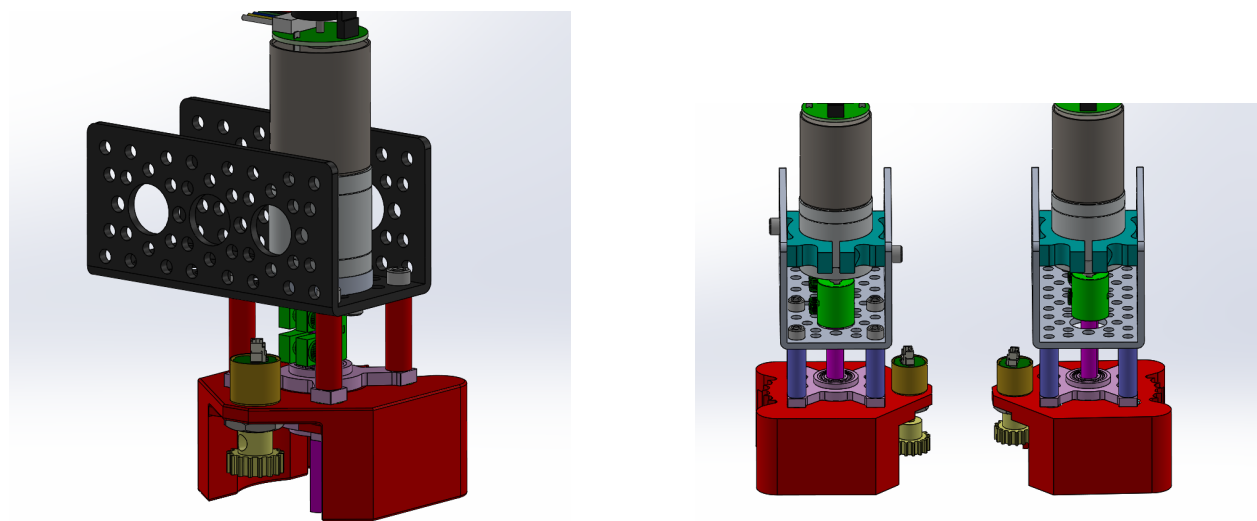

Figure 4: Corner Steering Step 4
4. **Encoder:** Attach the encoder **E7** to the encoder mount **S31** and then attach the 12-tooth gear **S27** to the encoder shaft. We will worry about its exact position later on. You should now have one finished corner steering assembly. Repeat the steps above to build the other 3 corner steering assemblies. **Note that unlike other assemblies, this assembly isn't identical for all four of them! You will need to build two versions where the encoder mount is mirrored about the motor shaft (see Figure 4 for an example).**